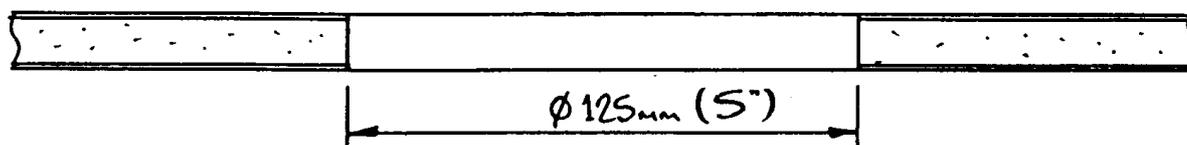

Fig 4. Hole cut out.
2. Cut a hole through the fuselage shell 25 mm (1") larger than the desired access hole. The maximum diameter for the access hole should be kept to 100 mm (4") - (figure 4).